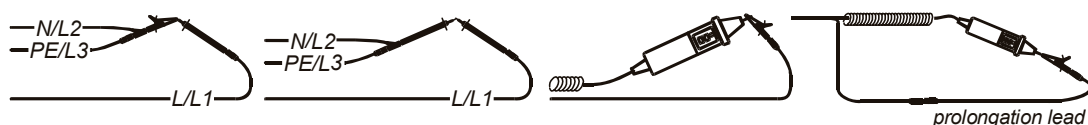

Figure 5.13: Shorted test leads
- **Connect** test cable to the instrument and short the test leads together (see figure 5.13).